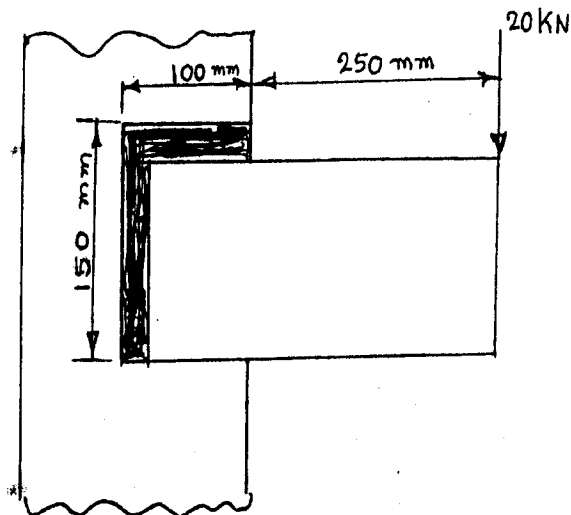

Fig.Q7(b)
- b. A 16mm thick plate is welded to a vertical support by two fillet welds as shown in Fig.Q7(b). Determine the size of weld, if the permissible shear stress for the weld material is 75 MPa. (10 Marks)